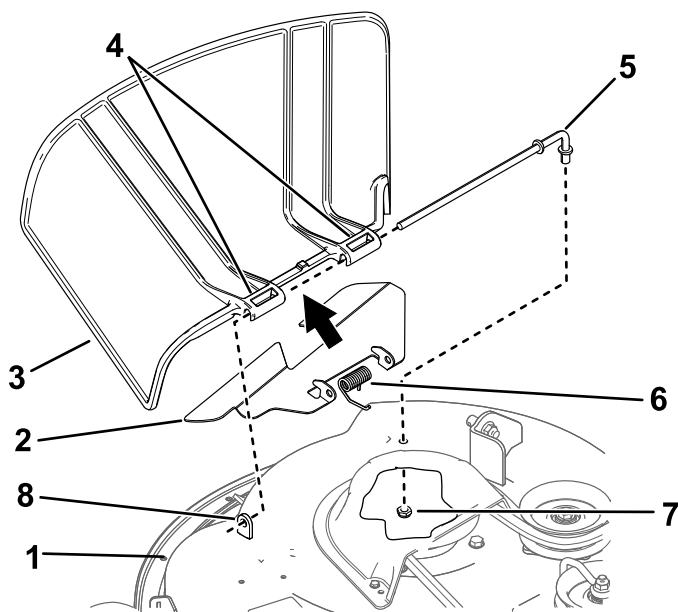

Figure 73
1. Remove the nut (3/8 inch) from the rod under the mower (Figure 73).
2. Slide the rod out of the short stand-off, spring, baffle, and grass deflector (Figure 73).
4. Install the new grass deflector and the baffle (Figure 73).
7. Slide the rod through the baffle and second grass-deflector pivot(Figure 73).
9. Secure the rear end of the rod into the mower with a nut (3/8 inch) as shown in Figure 73.